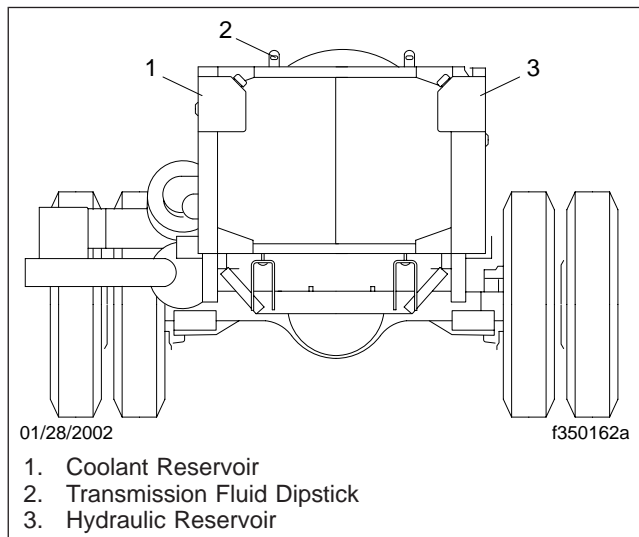
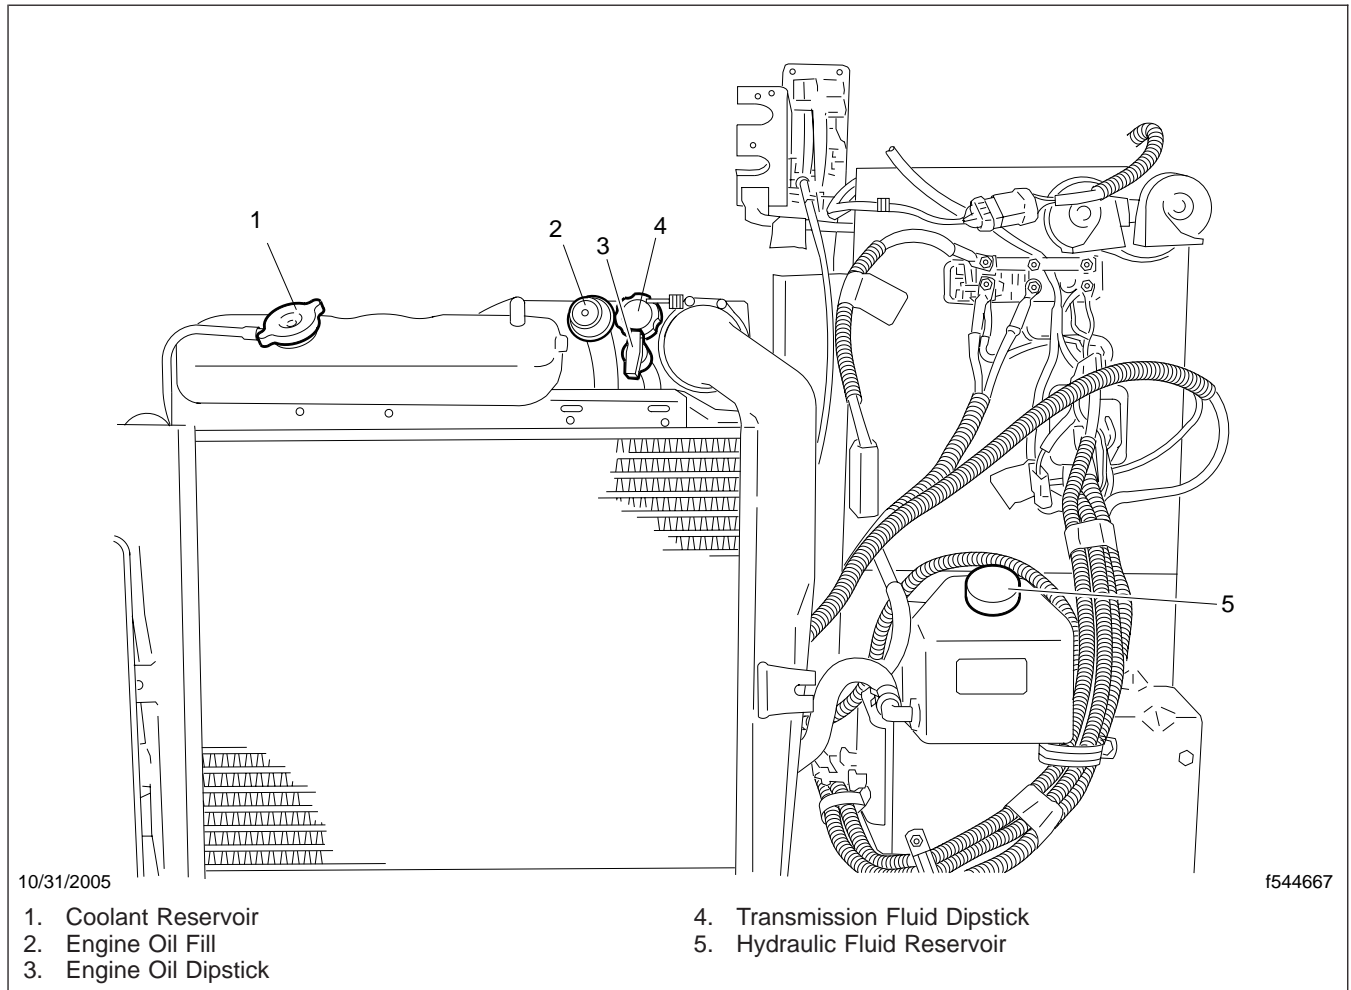

Fig. 11.6, Transmission Fluid Level Check
Fig. 11.7, Transmission Fluid Level Check (front-engine diesel chassis)
22. Check the oil level in the automatic transmission. See Fig. 11.6 and Fig. 11.7.